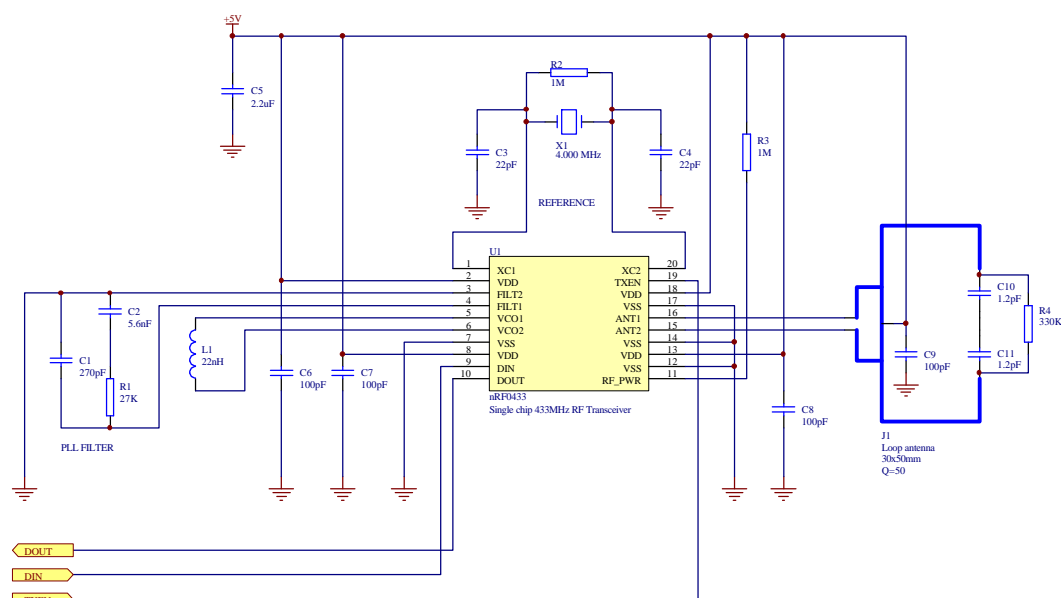

Figure 7. nRF0433 application Schematic.
Figure 7 shows a typical application schematic with a differential loop antenna on a Printed Circuit Board (PCB). If a single ended  $50\Omega$  antenna is preferred, the most convenient solution is to connect the antenna to nRF0433 using an 8:1 impedance transformer as a balun, see figure 6a). The transformer must have a centre tap at the primary side (primary side connected to the ANT1/ANT2 pins), as explained below.
The output stage (PA) consists of two open collector transistors in a differential pair configuration. +5V DC to the PA must be supplied through the collector load. When connecting a differential loop antenna to the ANT1/ANT2 pins, +5V DC should be supplied through the centre of the loop antenna as shown in figure 7. When using an 8:1 impedance transformer as a balun, +5V DC to the PA should be supplied through the centre tap at the primary side of the transformer as shown in figure 6a).
Output power is set by the external bias resistor R3 connected between RF\_PWR and +5V as shown in figure 7. The RF output power can be set to one of four levels as shown in table 5.
Figure 8 shows a PCB layout example for the application schematic in Figure 7. A double-sided FR-4 board of 1.6mm thickness is used. This PCB has a continuous ground plane on the bottom layer. Additionally, there are ground areas on the component side of the board to ensure sufficient grounding of critical components. A large number of via holes connect the top layer ground areas to the bottom layer ground plane. There is no ground plane behind the antenna.